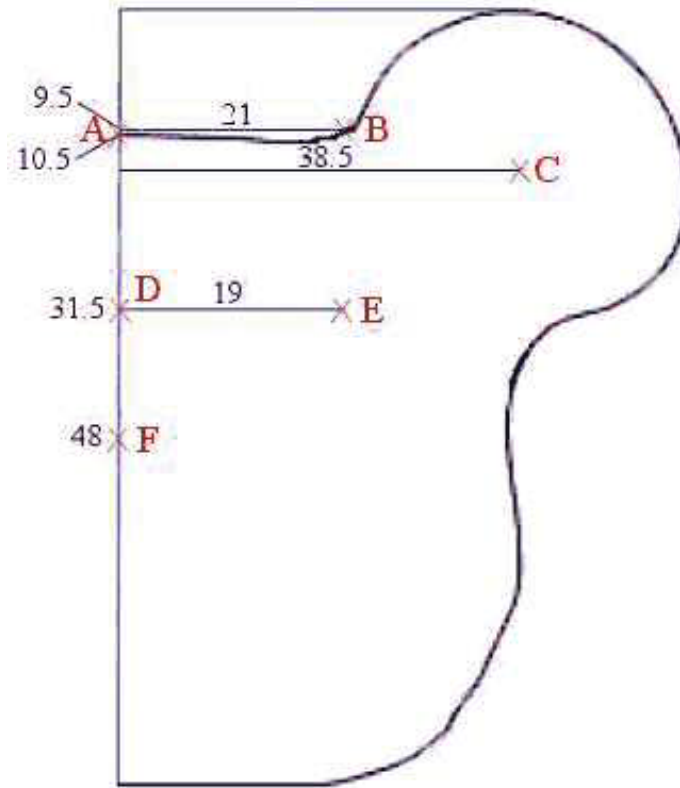
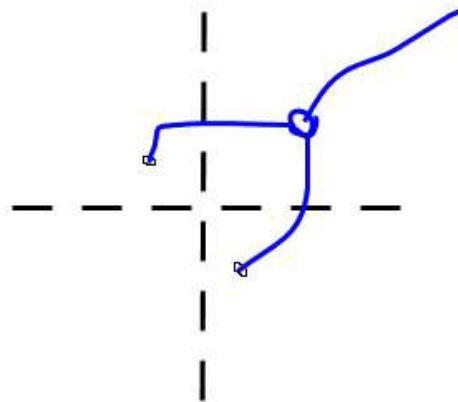

Figure 3. Bridle points
Figure 4. Detail of how the bridle lines are attached to the kite.
Figure 3 shows the bridle points of the kite. At each point I have sewn a reinforcement piece of material on the inside of the kite with a cross (X) on it. The bridle line is sewn onto the kite using the cross stitch in a similar way as reinforcement lines are used on larger kites (see Figure 4). This method seems strong enough for this size of kite. But if you wanted to make a stronger or larger version I guess you should sew on some reinforcement lines in a grid pattern, where the intersecting nodes are at the positions of the bridle points. Table 1 shows the lengths of the bridle lines. I have experimented with different towing points to try and make the kite fly in low winds, but it seems these values work best, and the kite needs a good bit of wind to produce any lift from the small sail area. I attached my bridle lines after all the sewing was complete, so that they were not in the way.